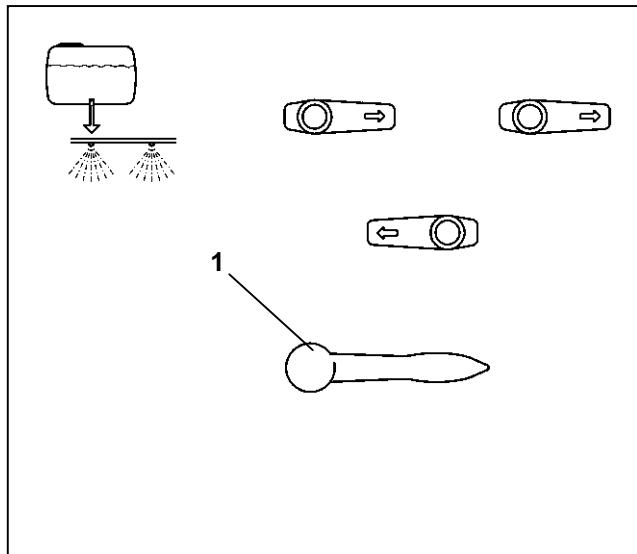

Fig. 7.20
- Bring control tap (7.20/1) to position "spracing" according to Fig. 7.20.